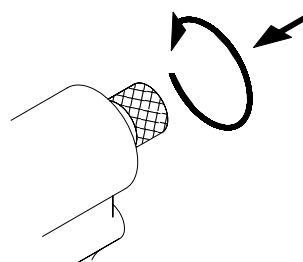

FIG. 3. Engage Safety Stop
1. **To engage the safety stop**, push in and turn the safety stop knob clockwise. See FIG. 3.